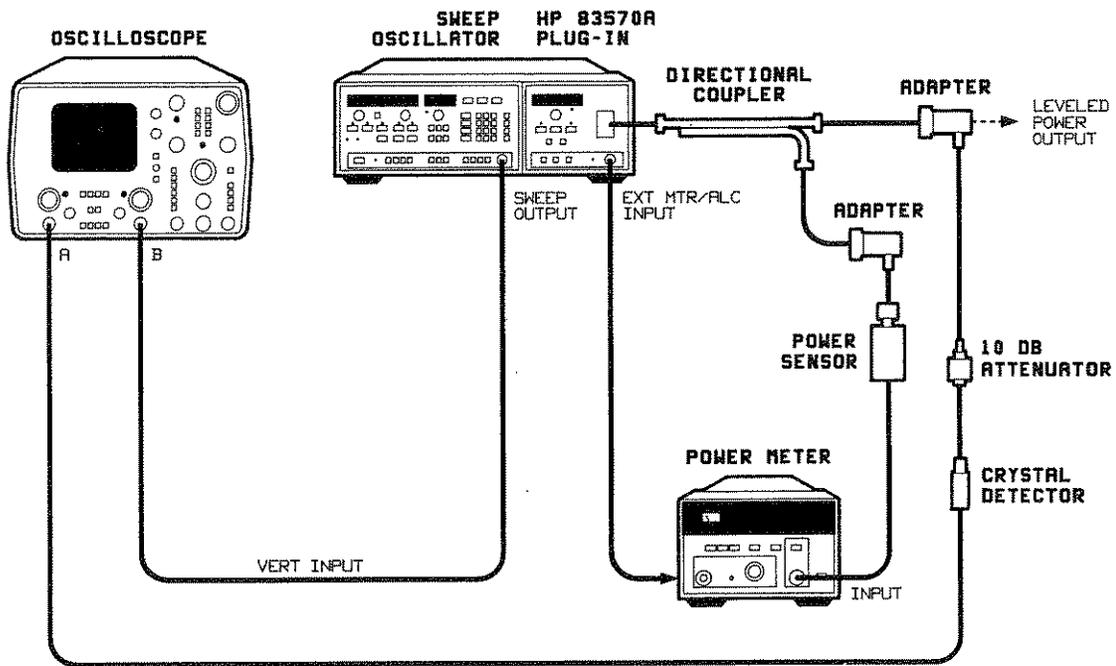

Figure 3-6. External Power Meter Leveling Set Up
RF output power can be leveled using a power meter and a directional coupler (or power splitter). Power meters that are compatible with the HP 83570A for power meter leveling applications are the HP 432A/B/C, 436A, and 438A. For power meter leveling (**ALC MODE [MTR]**), the power meter is used in conjunction with the internal leveling loop. Low frequency variations are handled by the power meter and high frequency variations are handled by the internal leveling loop. When using power meter leveling, limit the sweep time to 50 seconds for best power level accuracy. A sample of the RF output signal is routed to a power meter which produces a dc voltage proportional to the RF signal level. This dc signal is applied to the HP 83570A ALC circuits and compared with an internal reference voltage. A difference voltage is produced and amplified by the ALC amplifier before being applied, as modulator drive, to a PIN Modulator. Figure 3-6 illustrates a typical power meter leveling setup.
3. Connect the equipment as shown in Figure 3-6.
To use leveled RF output power for testing external equipment, make the connection at the point marked Leveled Power Output, in Figure 3-6.